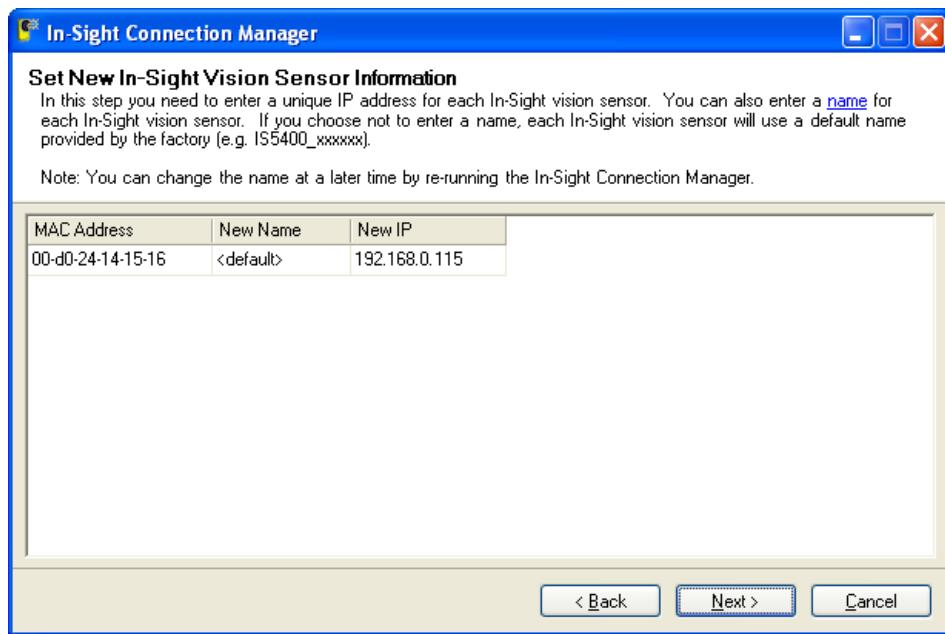

Figure 2-18: Enter IP Address
10. For each sensor in the table (Figure 2-18), enter a unique IP address in the New IP column. Optionally, you can type in meaningful names for each sensor under the New Name column.